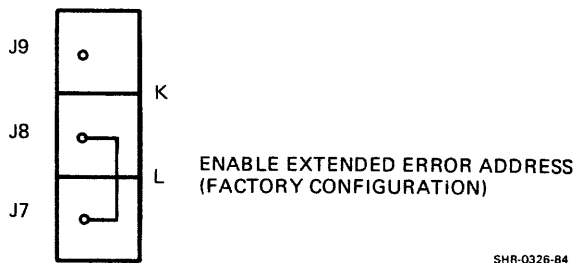

Figure 2-6 Enable/Disable Extended Error Address
**2.2.5 Enable/Disable Extended Error Address Jumper (Figure 2-6)**